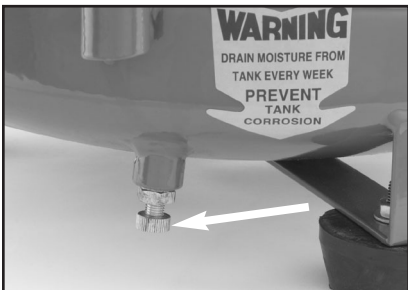

Figure 5. Drain valve location.
2. Close the drain valve, shown in **Figure 5**, so the tank can build up pressure.
To release air by using the drain valve, you simply turn the release nut to allow air to flow out of the tank. The drain valve is shown in **Figure 5**. The drain valve is also used to drain condensation that builds up in the tank.